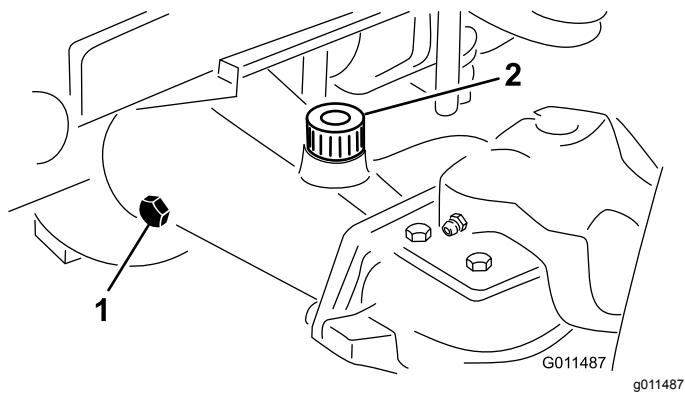

Figure 92
2. Remove a check plug from the end of the axle and ensure that the lubricant is up to the bottom of the hole (Figure 92).